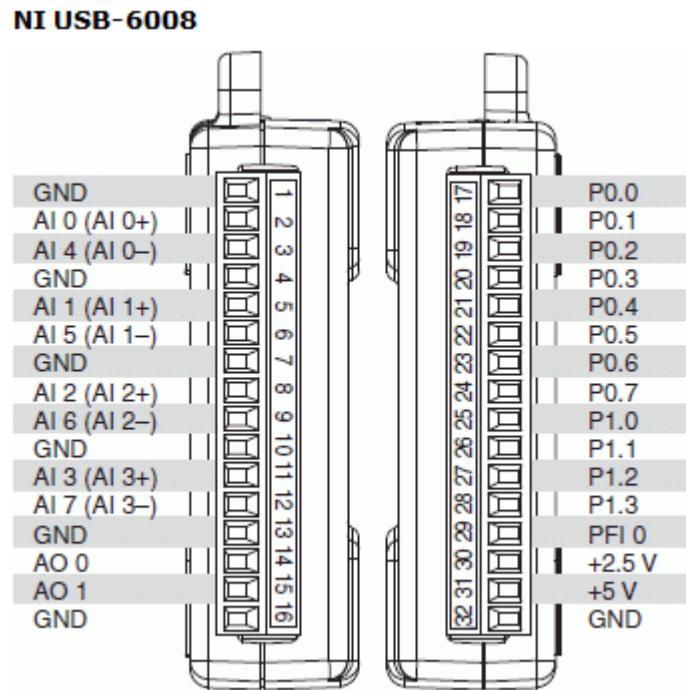

Figure 3.10: USB 6008 Pinout.
1. Draw a schematic of the circuit you connected in the lab using Figure 3.10.